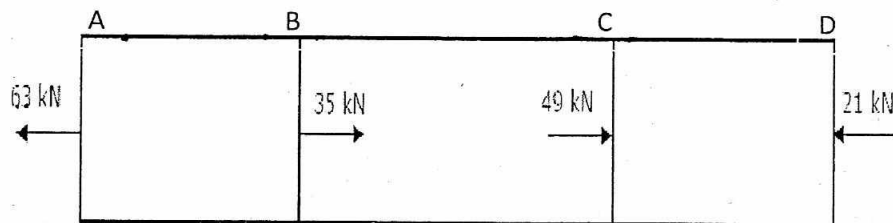

Fig. 5
- A bar having a cross-sectional area of 700mm^2 is subjected to axial loads at the positions indicated in Fig. 5. Find the value of stresses and corresponding strains in all the segments. Take modulus of elasticity as 200 GPa.